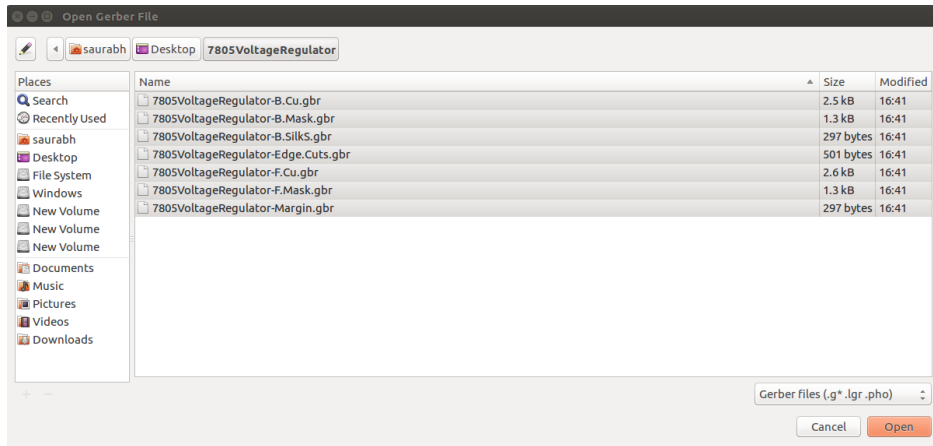

Figure 12.24: Loading gerber files in the gerbview
3. Go to the directory where you have stored the earlier created gerber files as shown in Fig. 12.24 and click on Open.